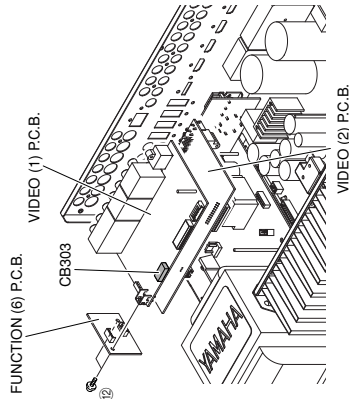

Fig. 4
6. Removal of VIDEO (1) and (2) P.C.B.s
- a. Remove 2 screws (12) and then remove the FUNCTION (6) P.C.B. which is connected directly to the VIDEO (1) and (2) P.C.B.s with board connectors. (Fig. 4)
- c. Remove CB303. (Fig. 4)
- d. Remove the VIDEO (1) P.C.B.. (Fig. 4)
- f. Remove the VIDEO (2) P.C.B.. (Fig. 4)